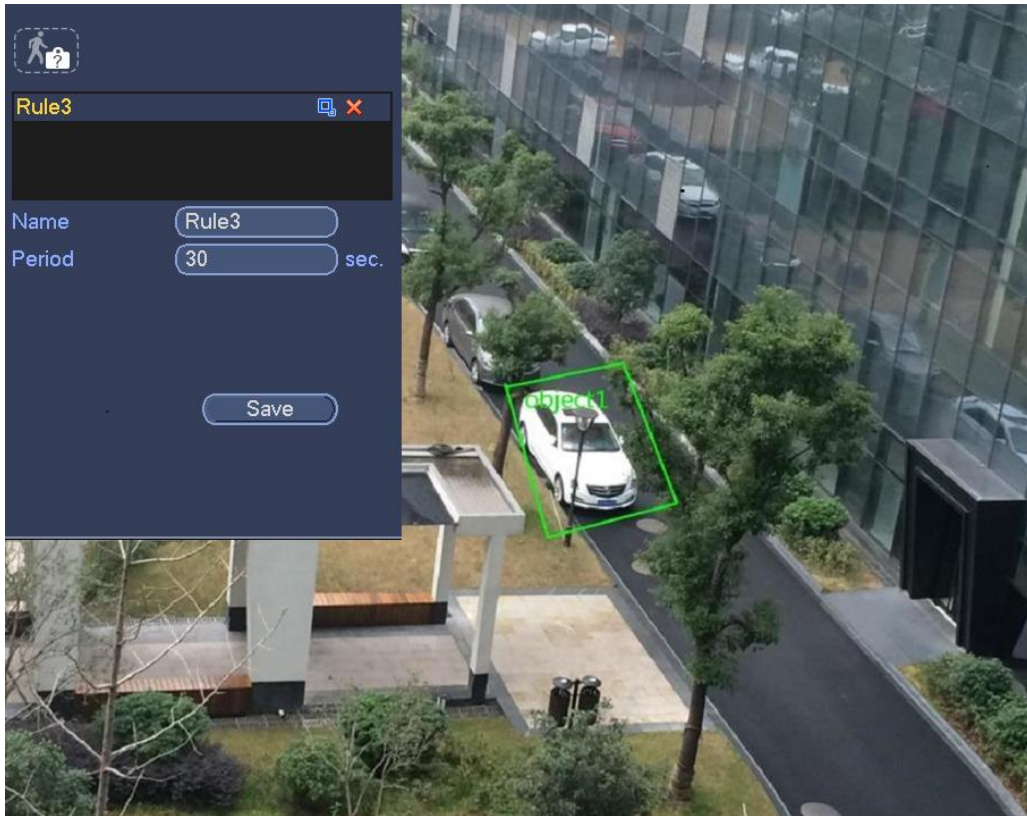

Figure 4-152
1. Click Draw button  to draw a zone. See Figure 4-152.